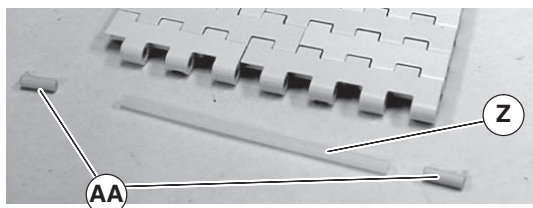

Figure 11
1. Locate the conveyor belt retaining rod (Figure 11, item Z) and belt end caps (AA).